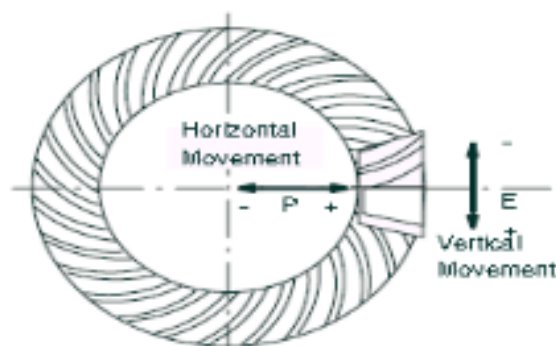

Figure 39 - Explanation of E and P movements
- Pinion axis raised with reference to the gear axis = (-) minus E. See figure 39.